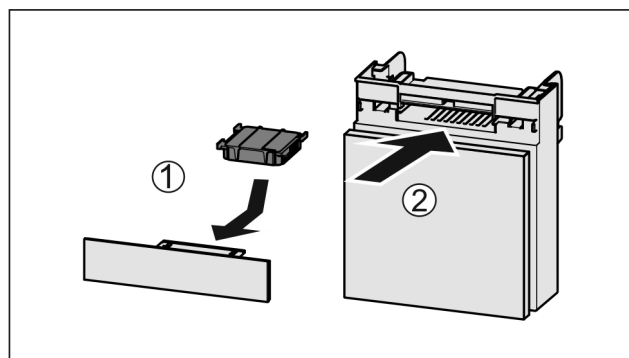

Fig. 100
- Insert the carbon filter as shown in the diagram Fig. 100 (1).
- Push the compartment in Fig. 100 (2).